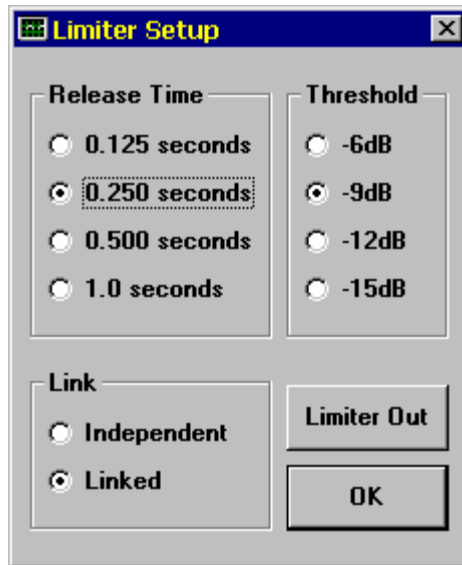

Figure 3-5 Tutorial Limiter Setup Window
12. Click on the **Limiter Setup** button in the Input Levels block. The following window (Figure 3-5) will appear:
13. Use the mouse to set the Release Time to 0.250 seconds and the Threshold to -9dB, as shown in Figure 3-5. Click on **OK** when done*.